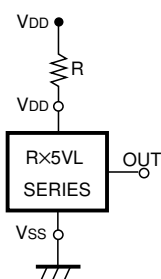

FIG. 8
1. When R5VL~~C~~ (CMOS Output) is used in FIG. 8, this IC may oscillate by the through-type current at the detection when impedance is connected between Power Source VDD and R5VL VDD Pin. When R5VL~~A~~ (Nch Open Drain Output) is used in FIG. 8, and R becomes excessively large, Detector Threshold may be varied because of the voltage drop of the supply current in the IC itself.